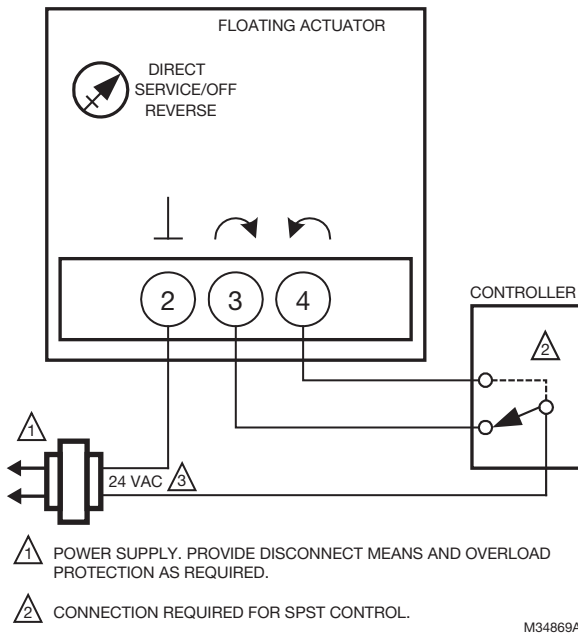

Fig. 17. MN6105 with On/Off SPDT Control.
2. Wire actuator using Fig. 17 through 41 for the application required.